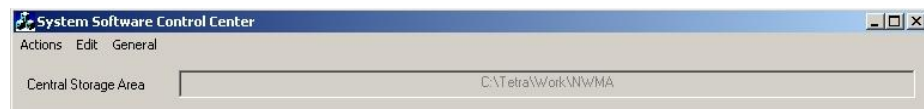

Fig. 6-8: Central Storage Area
1. In order to verify the current directory path setting, check the *Central Storage Area* text field at the top of the *Software Control Centre*'s main window (see Fig. 6-8).